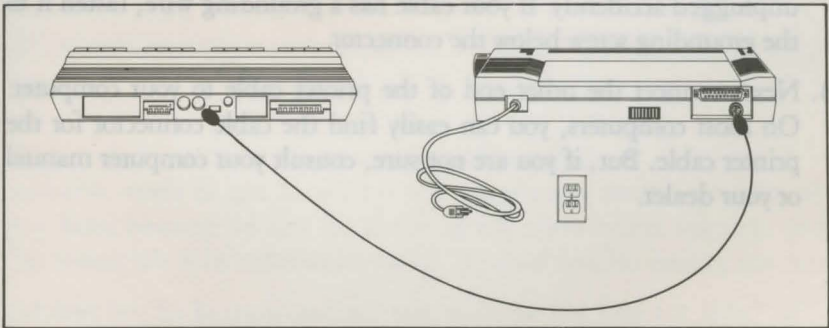

Figure 1-20. Printer to computer hookup (serial)
2. Connect the other end of the cable to the serial port on the computer. Again, make sure you are keying the pins properly into the connector with six holes. Refer to figure 1-20 below.